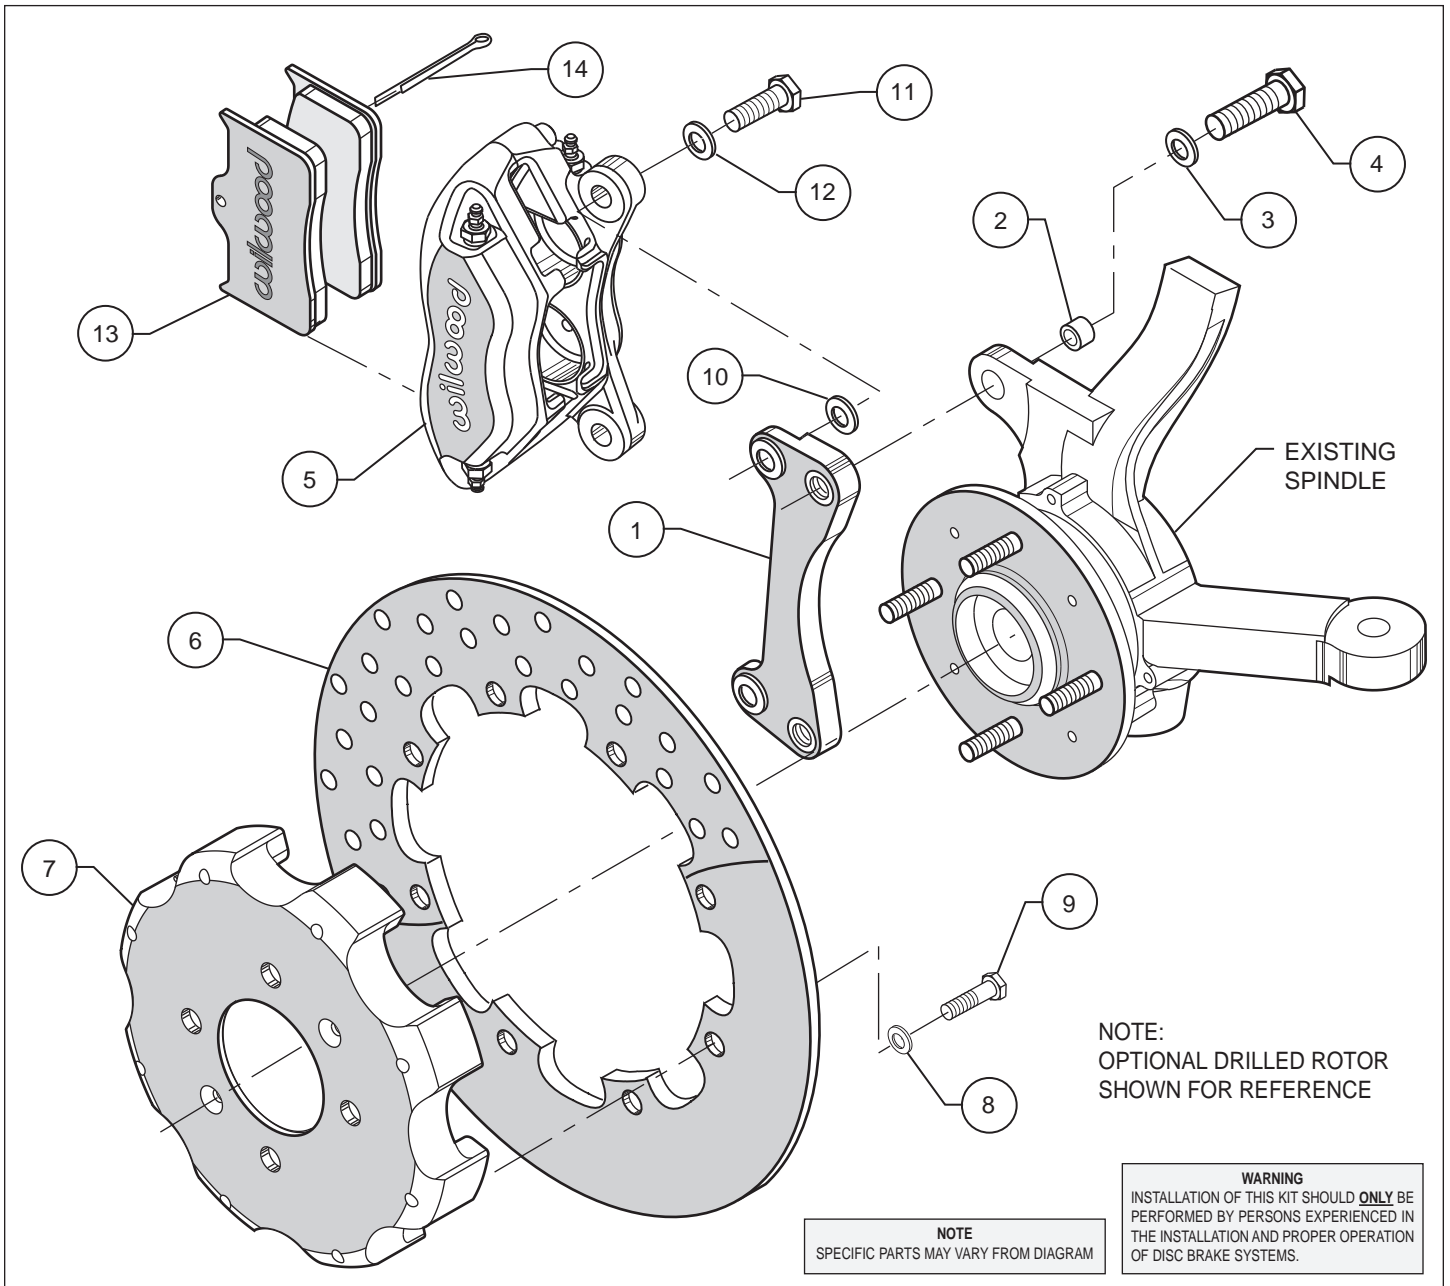
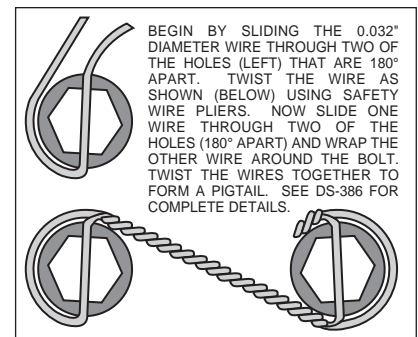

Figure 3. Typical Installation Configuration, Left Hand Application Shown
Figure 4. Safety Wire Diagram
- Insert one sleeve (2) each into the holes on the top and bottom of the spindle “ears” where the OEM caliper bracket was removed. Apply red *Loctite*® 271 to the caliper mounting bracket bolt threads (4) before installation of the caliper mounting bracket (1). Install the caliper mounting bracket (1) with the threaded inserts and the beveled bolt holes facing the outside of the vehicle. Slide bolt (4) through washer (3) into the previously installed sleeve (2) from the backside of the spindle. Finger tighten. Repeat for the lower mounting hole. Torque bolts to 40 ft-lb. **NOTE:** Be sure the heads of the caliper bracket (1) insert nuts are facing outward toward the wheel.
- Attach the hat (7) to the rotor (6) using washers (8) and bolts (9) as shown in Figure 3. Using an alternating sequence, apply red *Loctite*® 271 to the threads and torque bolts to 25 ft-lb. For an added measure of security, the bolts may be safety wired using standard 0.032 inch diameter stainless steel safety wire as shown in Figure 4. Please refer to Wilwood’s data sheet DS-386 for complete safety wire installation instructions. Slide the rotor/hat assembly onto the spindle. Install three lug nuts (finger tighten) to keep the rotor/hat assembly in place while continuing with the installation.